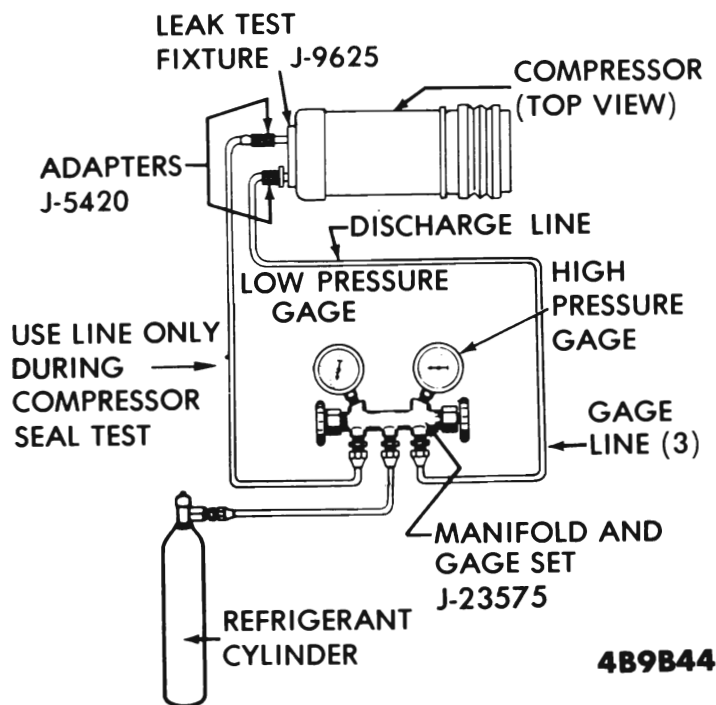

Figure 9B-51 Leak Testing Shaft Seal and Seal Seat O Ring
6. Install Compressor Leak Test Fixture (J-9625) on rear head of compressor and connect gage charging lines as shown in Figure 9B-51. Pressurize suction side of compressor with Refrigerant-12 vapor to drum pressure. Temporarily install the shaft nut and, with compressor horizontal and oil sump down, rotate the compressor shaft in normal direction of rotation several times by hand. Leak test the seal with a propane torch type leak detector in good condition. Correct any leak found. Remove and discard the shaft nut.